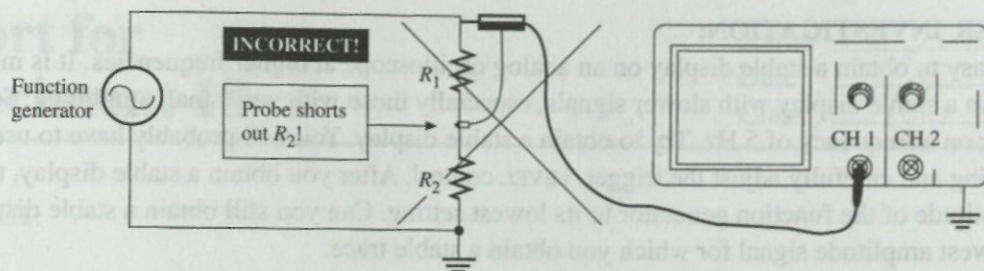

Figure 18-2
3. In this step you will need to use a two-channel oscilloscope with two probes, one connected to each channel. Frequently, a voltage measurement is needed across an ungrounded component. If the oscilloscope ground is at the same potential as the circuit ground, then the process of connecting the probe will put an undesired ground path in the circuit. Figure 18-2 illustrates this.